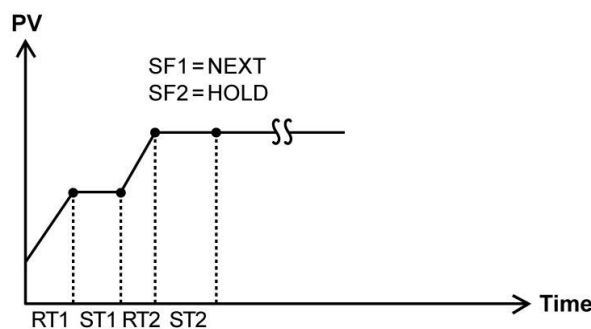

Figure 6. SF1=NEXT and SF2=HOLD
- Hold: The profile will be held at current set point. Refer to figure 6.
- **LNx** Set the loop number when special function is set to RT1 ~ RT8. In the figure 6, the SF2 is set to jump to RT1 and LN2=1, so when the ST2 is done, the profile will ramp down to SP1 with RT1, because of the LN2=1, once step ST1 is repeated, the profile will go to next step by ramping up to SP3 with RT3.